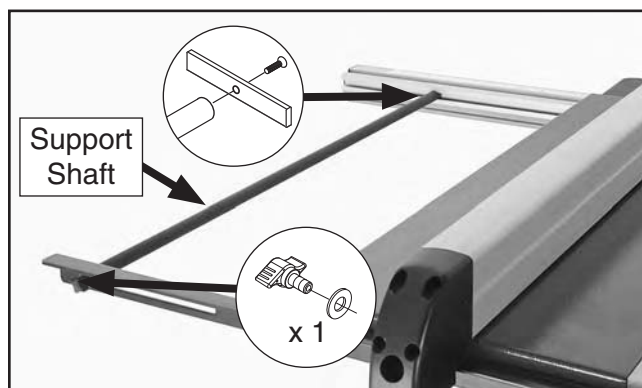

Figure 27. Support shaft installed.
30. Secure the sliding rail plate to the support shaft with an M4-.7 x 12 flat head screw, slide the plate into rear slot on the front rail, then secure the opposite end of the shaft with (1) M6-1 x 12 knob and (1) 6mm flat washer, as shown in **Figure 27**. Ensure that the shaft is parallel with the extension wing.